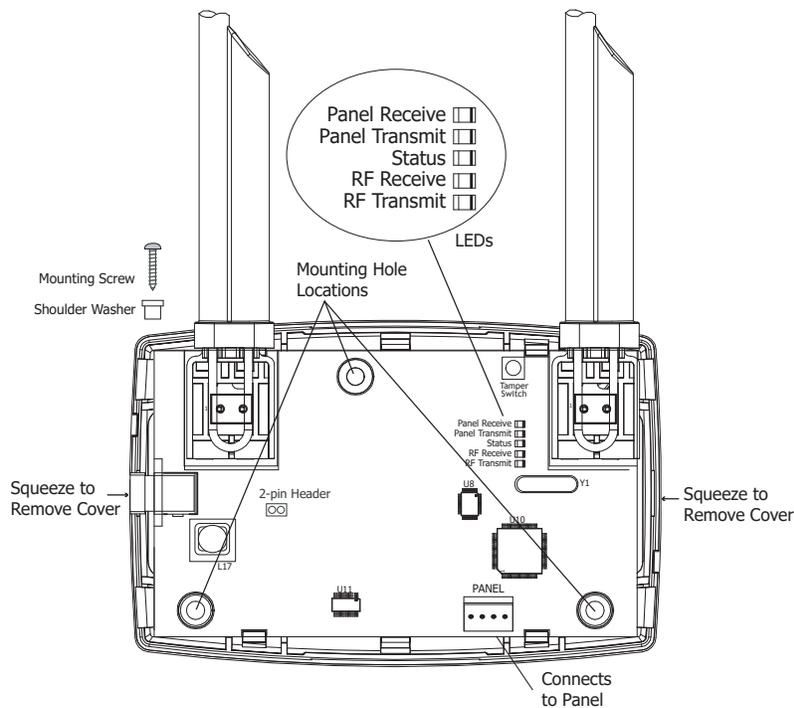

Figure 1: Receiver PCB
2. Secure the wireless receiver to the wall in the desired location. Ensure the two antennas are pointing up and the wall tamper switch makes proper contact with the wall. Use the supplied shoulder washers and screws in the mounting hole locations. See Figure 1.